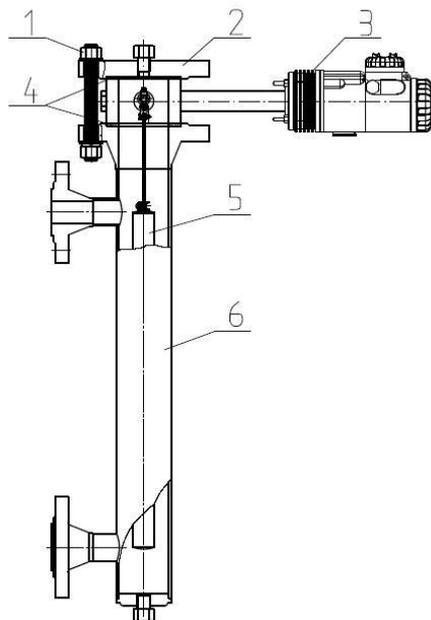

Figure 1 Product Structure
2.1 Main Structure of Product-Figure 1
6.2.1 When installing the measuring chamber, the axis of the outer cylinder side flange must be perpendicular to the horizontal plane (Figure 5). If the ZTD transmitter and the remaining parts are packaged separately, install the parts according to the position shown in Figure 1. If it has been installed as a whole, follow 6.2.3-5.